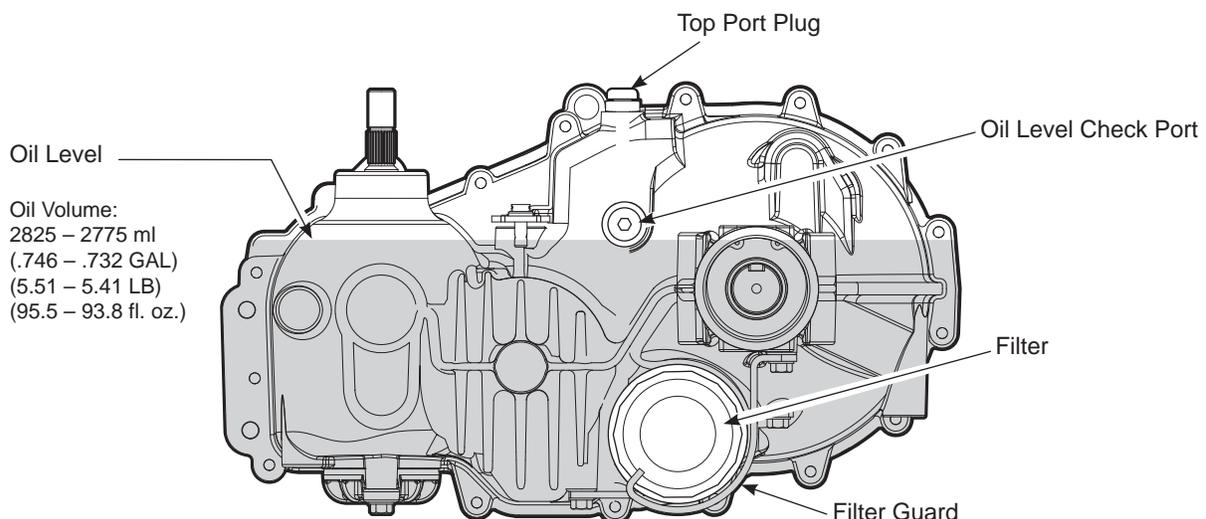

Figure 4, Filter Location
7. Remove the oil level check port plug (figure 4) from the transaxle prior to filling with oil. This will allow the transaxle to vent during oil fill.
Certain situations may require additional fluid to be added or even replaced. Refer to page 11 and figure 4 for the proper fill port location.